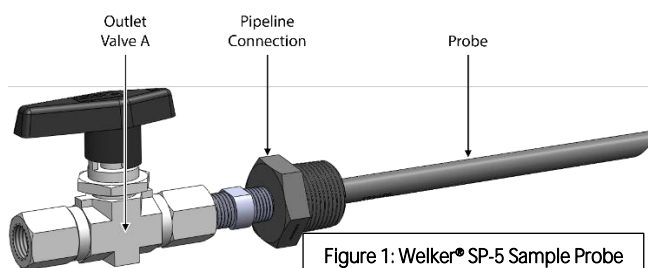

Figure 1: Welker® SP-5 Sample Probe
1. Ensure that outlet valve A is closed (*Figure 1*).
4. Unscrew outlet valve A (*Figure 1*).
7. Reinstall outlet valve A to the SP-5 sample outlet (*Figure 1*).